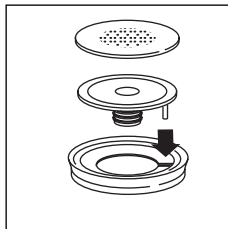

fig. 28
- Replace the filter and gasket on the plastic disk as shown in fig. 28. Make sure to insert the pin on the plastic disk into the hole in the gasket indicated by the arrow in fig. 28.